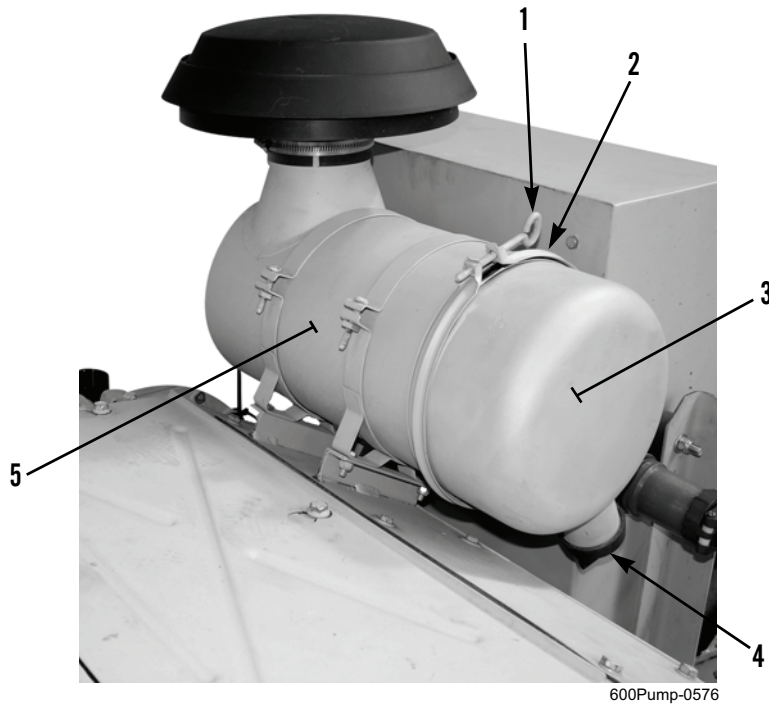

Figure 1. Air Cleaner Housing Cover.
1. Empty dust evacuator valve (Figure 1, Item 4) by squeezing discharge slot and expelling dust from air cleaner.
3. Loosen thumbscrew (Figure 1, Item 1) and clamp (Figure 1, Item 2) and remove cover (Figure 1, Item 3) from air cleaner housing (Figure 1, Item 5).